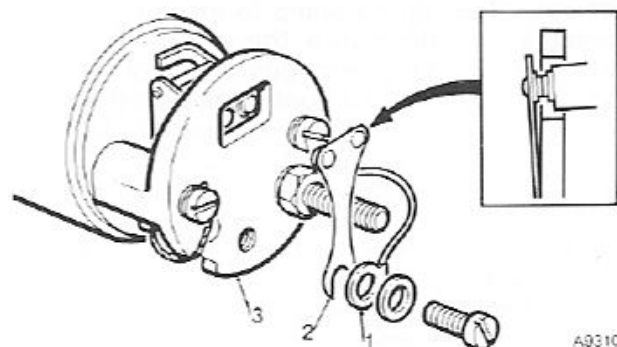

Fig 11. Setting the correct relative position of blade and rocker contact points.
- 24 Fit the contact blade (2) Fig. 11) and coil lead (1) to the pedestal (3) with the 5 BA washer and screw. Where a diode resistor is fitted it is in parallel with the coil connections. This component is polarity conscious and therefore all connections must be correctly made. A condenser, where fitted, is not polarity conscious.
- 25 Adjust the contact blade so that the contact points on it are a little above the contact points on the rocker when the points are closed (Fig. 11), also that when the contact points make or break, one pair of points wipes over the centre line of the other in a symmetrical manner. As the contact blade is provided with a slot for the attachment screw, some degree of adjustment is possible.